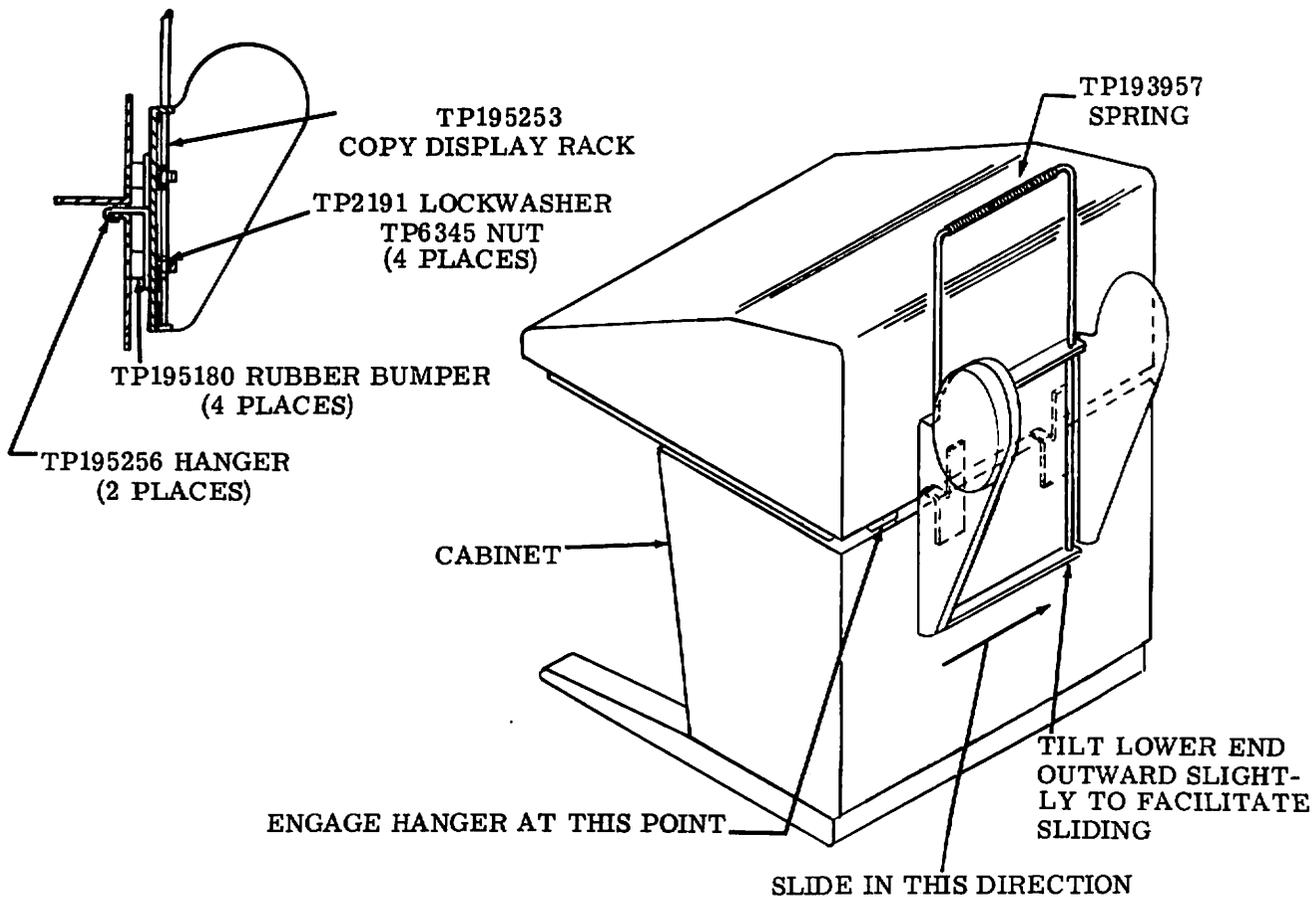

Figure 4 - Installing Paper Winder on 32 or 33 Console Cabinet Using TP195259 Modification Kit
3.03 Install paper winder on 32 or 33 console cabinet as follows. A TP195259 modification kit (Paragraph (1) below) is required (Figure 4).